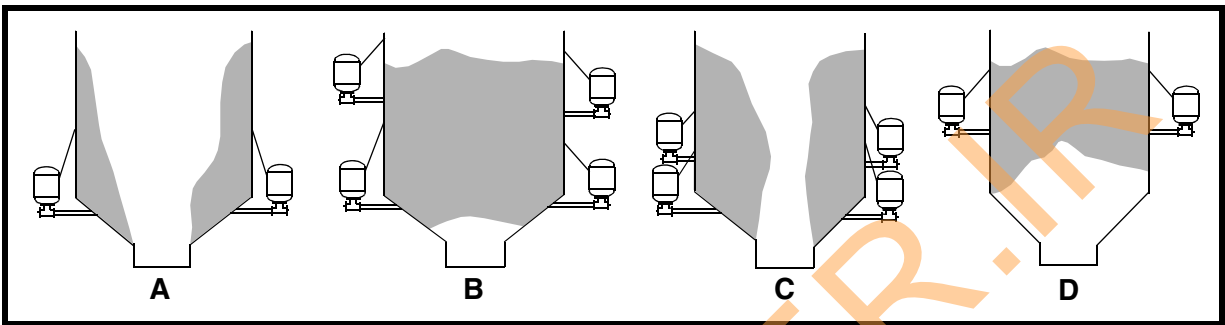

Figure 1. Restricted Material
The Martin® XHV Air Cannons are pneumatic, bulk material-moving systems that quickly release compressed air into a storage vessel to restore flow to material that is clinging (A), bridging (B), rat-holing (C), or arching (D) (see Figure 1). This manual provides instructions for installing cannons on steel structures only. For installations on other structures, call Martin Engineering or a representative.